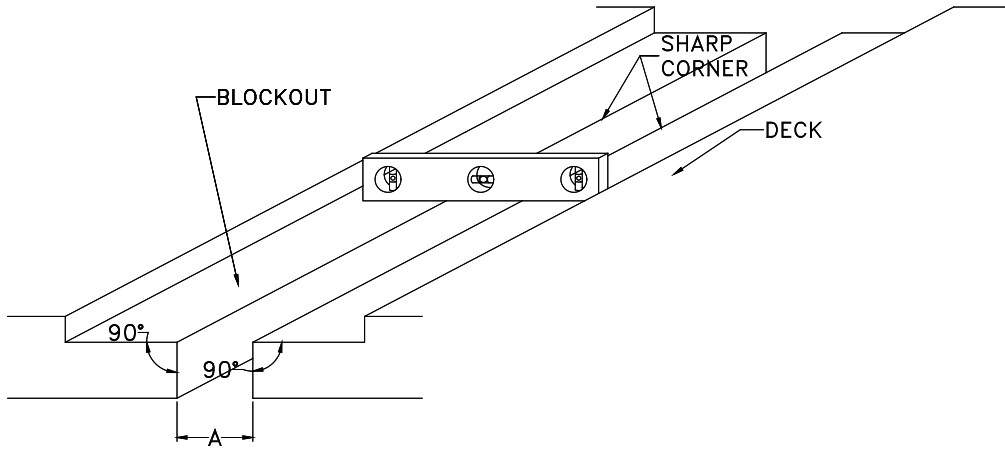

Figure 1
- B. Verify that the joint interfaces are parallel to, and continuously equidistant from, each other and that they are straight and plumb. Verify that they are perpendicular to the base surfaces of the recess - making the corner a perfect "sharp" 90° angle (see Figure 1). It is critical that the leading corner on the base of the blockout, at the joint opening be a sound, square 90° corner. This ensures that the wing flange of the seal is fully supported.